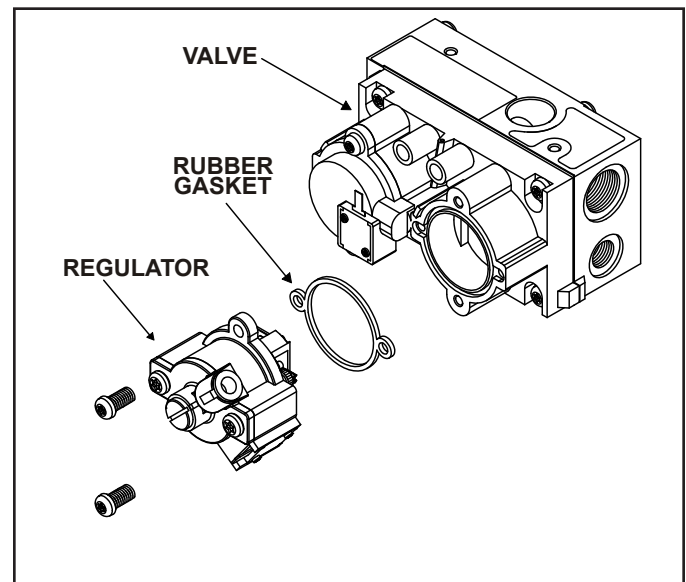

Figure 1
4. Using a #20 tamper-proof Torx screwdriver, remove the regulator and rubber gasket on face of valve. See Figure 1. Discard both the regulator and gasket.
5. Install the rubber gasket and new regulator included in the conversion kit. Be sure the gasket is seated properly as shown in Figure 1.